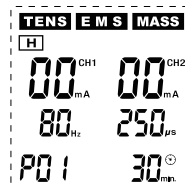

Fig. 8
- ⑬ **(H)**: Special programmes for the **hand** (see Fig. 8)
After one of these keys has been pressed, information with the corresponding letter appears on the display (e. g. **H** if the key **(H)** was pressed), as shown in Fig. 8.